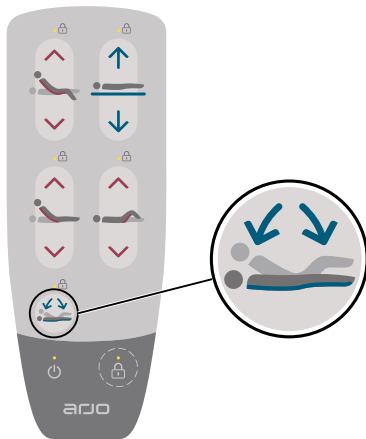

Figure 76
3. Make sure the patient surface is level. See Figure 76.